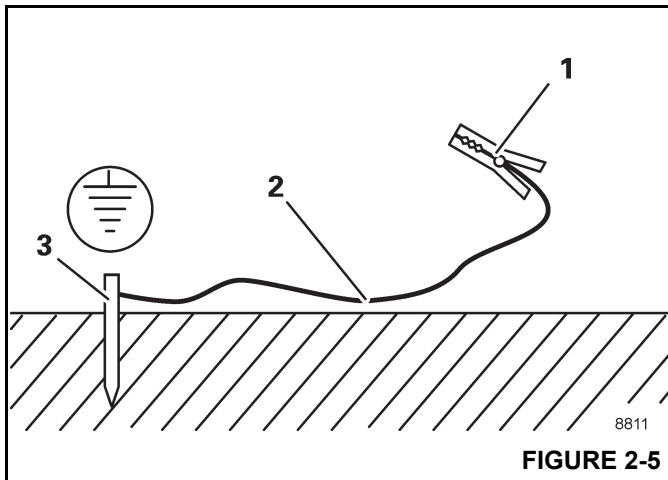

FIGURE 2-5
1. Hammer a metal rod (3, Figure 2-5) (length of approximately 2.0 m (6.6 ft)) at least 1.5 m (5 ft) into the ground.
2. Moisten the soil around the metal rod (3) for better conductivity.
3. Clamp an insulated cable (2) to the metal rod (3), cross-section of at least 16 mm2 (0.025 in2) (AWG 5).
4. Connect the free end of the cable with a clamp (1) to a good electrically conductive location on the frame.